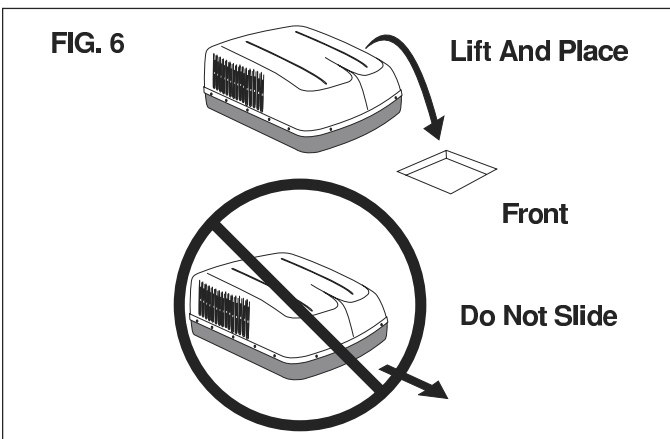

FIG. 6
- C. Lift and place the unit over the prepared opening using the gasket as a guide. The condenser coil goes toward the rear of the RV. See FIG. 6.